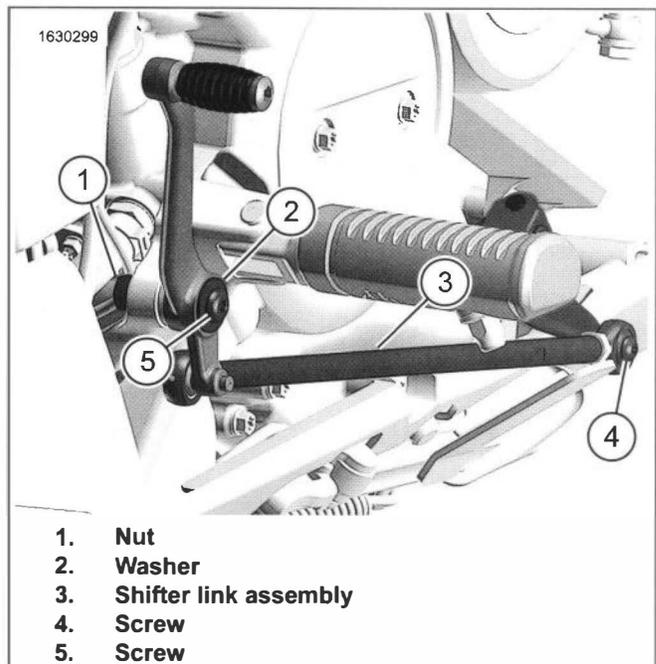

Figure 5-6. Shifter Link Assembly
- a. See Figure 5-6. Remove screw (4).
- b. Remove screw (5), washer (2) and nut (1).
- c. Remove shifter link assembly (3).
- 2. See Figure 5-6. Install shifter linkage.
- a. Install shifter linkage (3).
- b. Install screw (4). Tighten.